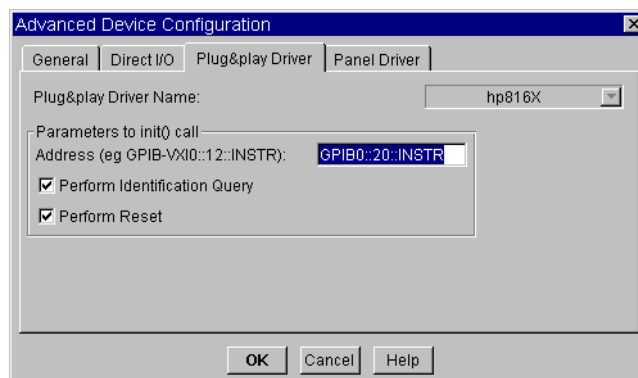

Figure 14 Advanced Device Configuration - Plug&play Driver
- 4 Press Advanced I/O Config ..., the Advanced Device Configuration box pops up. Select the Plug&play Driver tab, the box in Figure 14 appears.